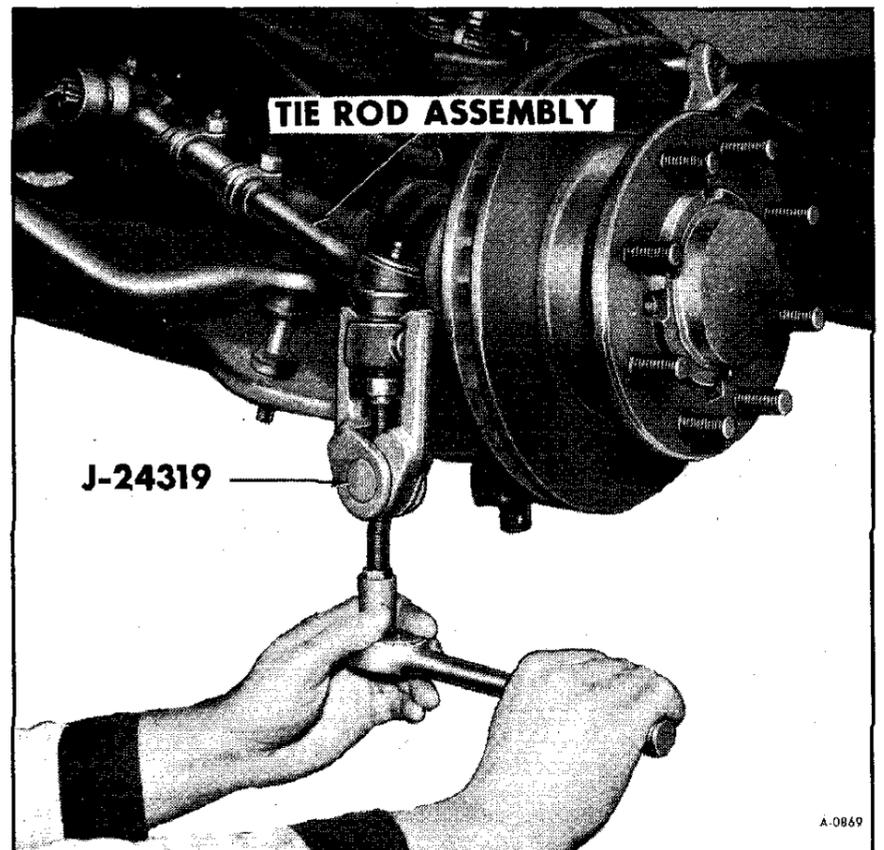

Figure 12—Removing Tie Rod End
6. Using Tool J-21319, remove tie rod end as shown in figure 12.